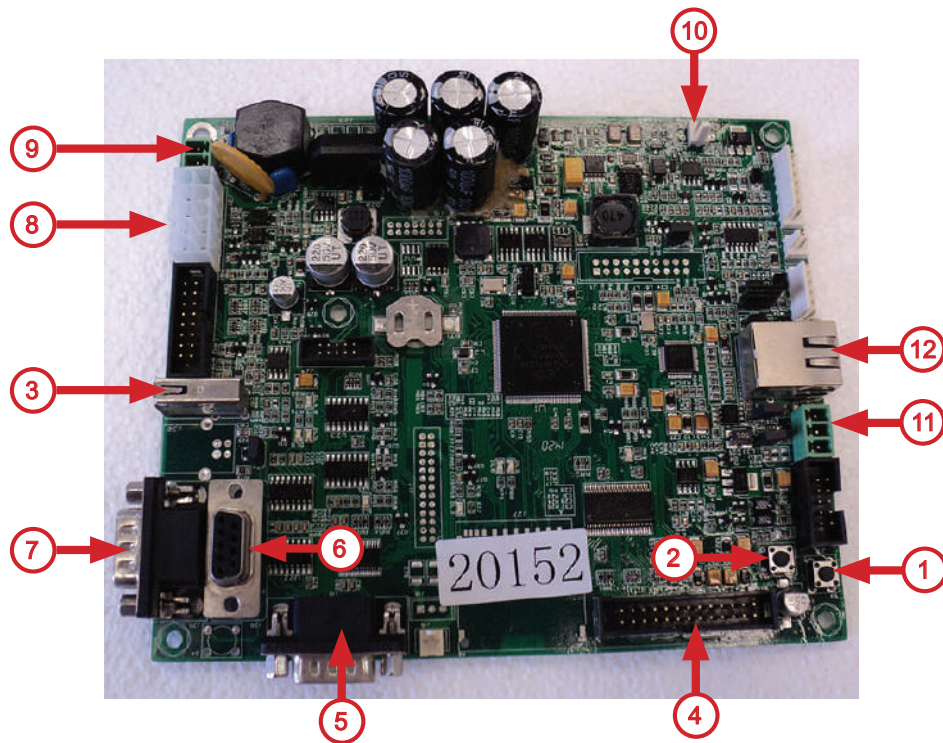

Figure 41 - Main Board (controller)
You can switch to the service mode by pressing the relevant button on the 4-key pad, which is located on the inner side of the vending machine's door. If the buttons on the keypad are not responding, you can switch modes by pressing holding down for 2-3 seconds, buttons (1) or (2) on the main board (see figure 41).
- Insert the storage device USB-flash drive (see figure41 pos. 3) into the USB port of the controller board;